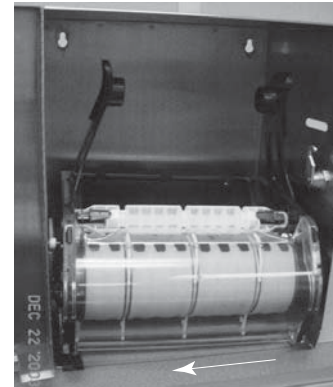

Fig. 2
3. Slide the module to the left side of cabinet, tilt the left side of the module slightly upward (approx. 1") and then pull forward to remove from cabinet. (See Fig. 2)